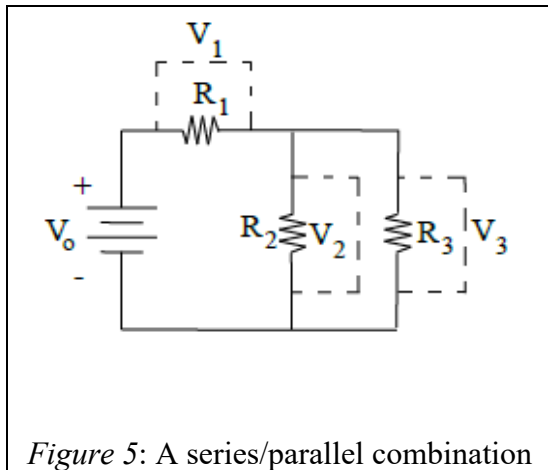

Figure 5: A series/parallel combination
- Calculate the equivalent resistance, R_{eq} , for the three resistors hooked up as in Figure 5, first using your measured resistances (record as Measured R_{eq} in Table 3), and then using the values from the color code chart (record as Color Code R_{eq} in Table 3).